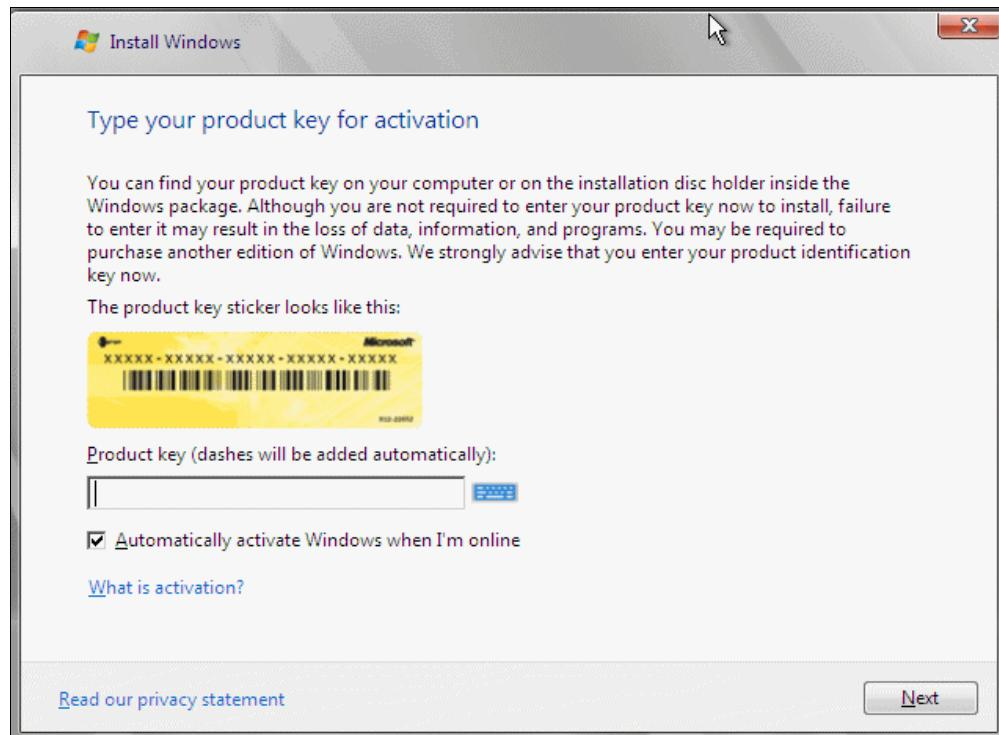

Figure 18-41 Entering the product key
4. Enter the product key and click **Next** as shown in Figure 18-41.